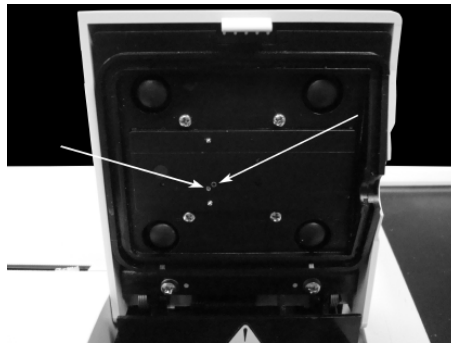

Fig. 8-53 Locate Optical Channels
1. Open the SMC cover and locate the two small optical channels pictured below (Fig. 8-53).